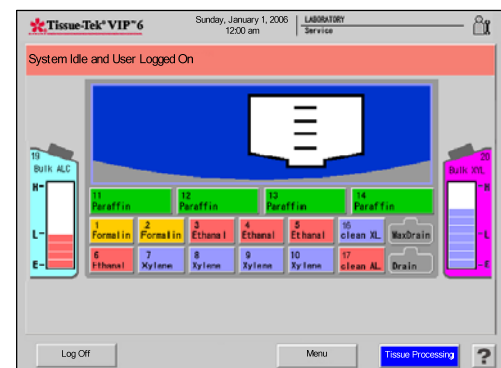

Figure 4-B
- If your login is *successful*. The Process Monitor screen displays (Figure 4-B).
3. Touch the **Tissue Processing** button to access the Start Tissue Processing screen (Figure 4-C).